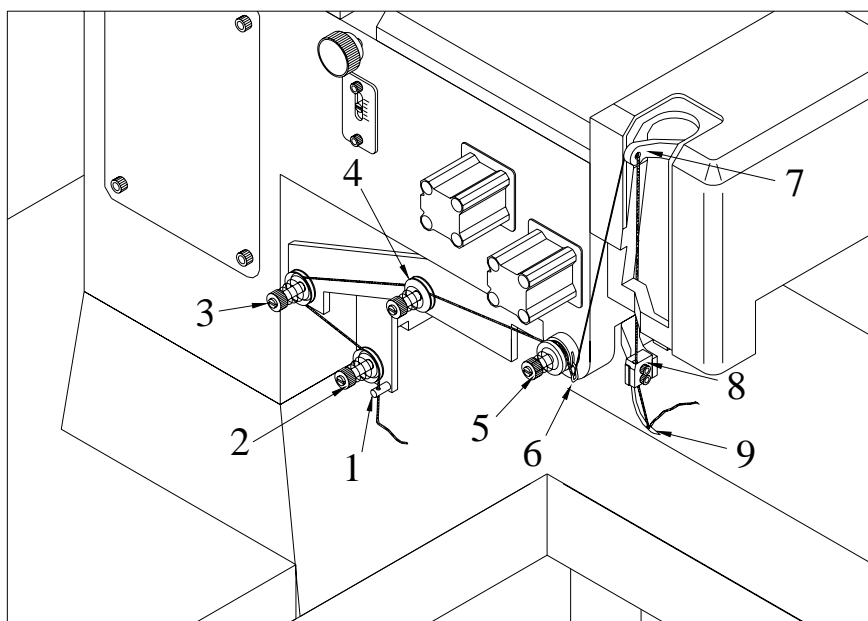

Fig.2
- Threading the needle thread by the path indicated in **Fig.2**
(1)Threading rod (2)Tightener 1 (3)Tightener 2 (4) Gathering tightener
(5) Tighten wheel (6)Take-up spring (7)Take-up lever (8)Clamp (9)Needle
Needle thread tension can be adjusted by turning (2)Tightener 1 (3)Tightener2 and (5)Tighten wheel.(Fig.2)